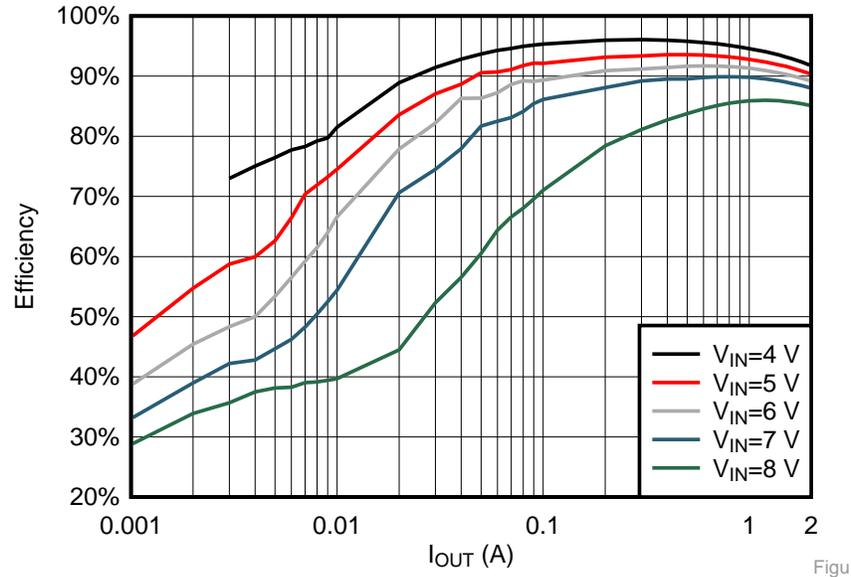
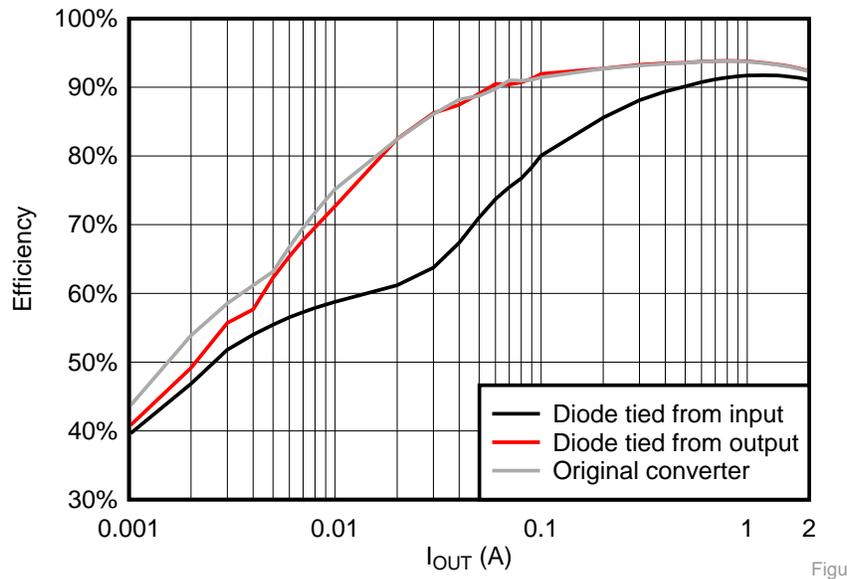

Figure 21. Efficiency of Solution (1) with 3.3 V Output under Different Input Voltage
Figure 23. Efficiency Comparison with 8 V Input and 5 V Output
Figure 21 through Figure 23 show the efficiency of solution (1) and (2) with 3.3 V / 5 V output under different V_{IN} . The efficiency of solution (1) is lower than the efficiency of solution (2) and the original converter. Solution (2) has a closer efficiency performance to the original converter. The lower the input voltage, the higher the efficiency.